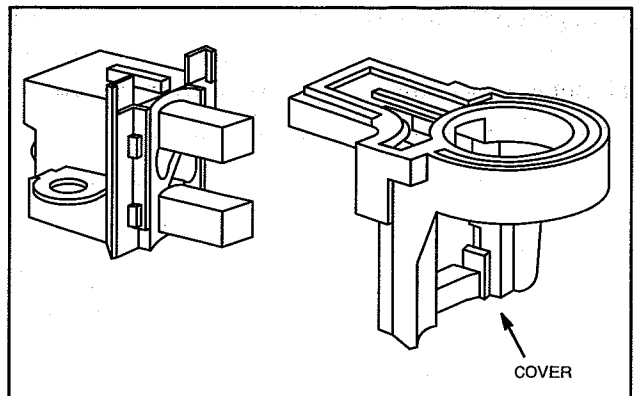

Fig. 40 - Install Brush Cover
8. Assemble cover to brush holder, Fig. 40.